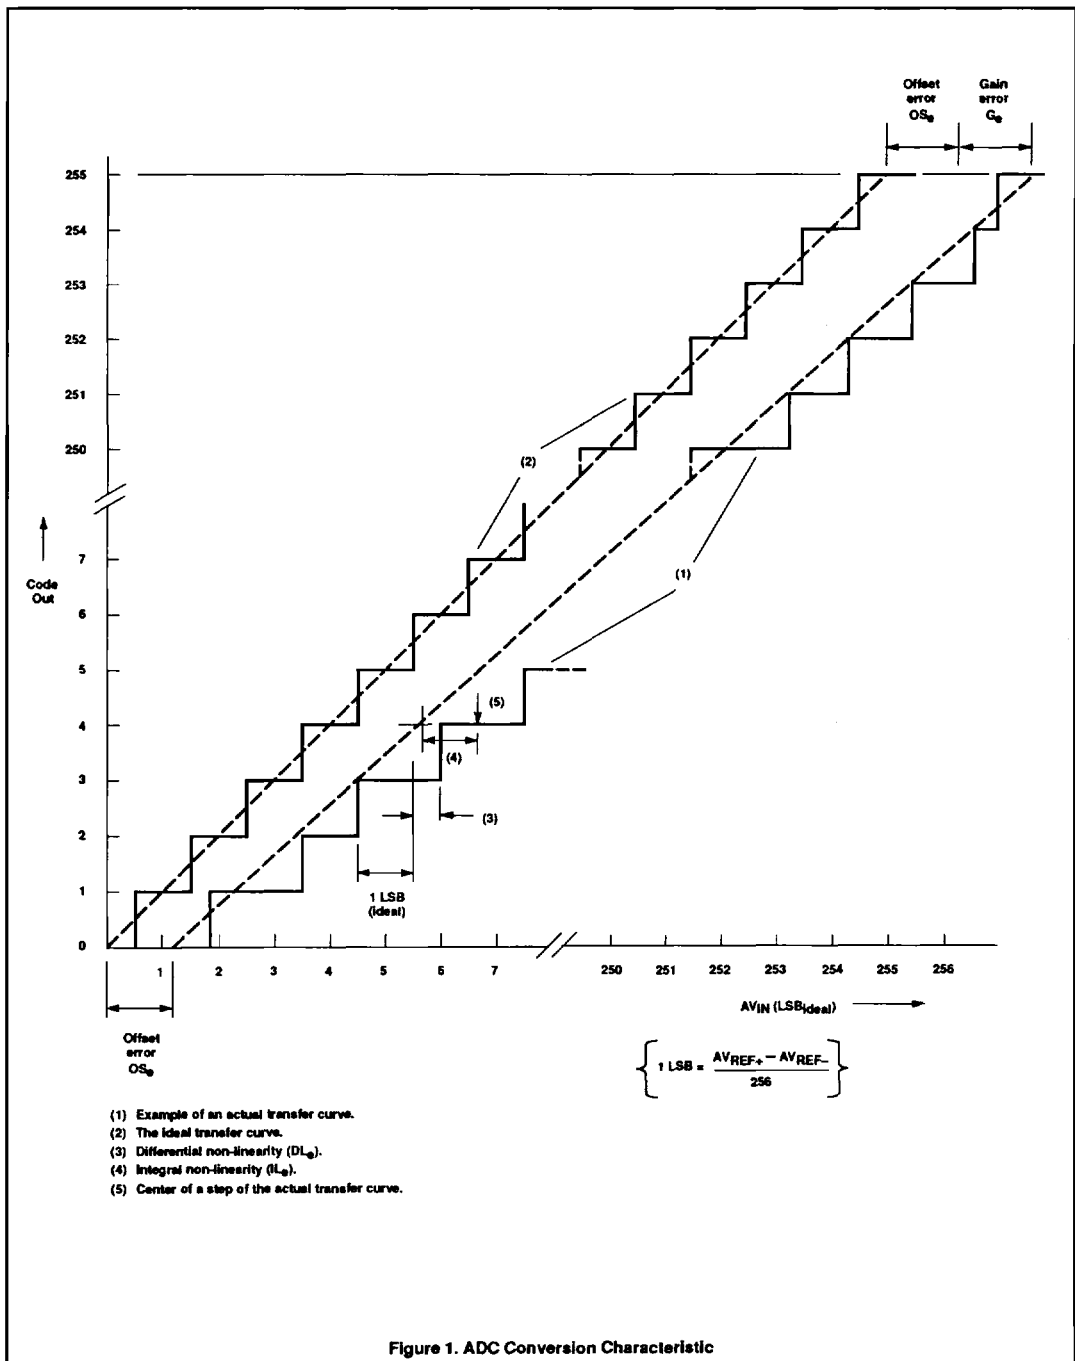

Figure 1. ADC Conversion Characteristic
- The differential non-linearity ( $DL_e$ ) is the difference between the actual step width and the ideal step width. (See Figure 1.)
- The integral non-linearity ( $IL_e$ ) is the peak difference between the center of the steps of the actual and the ideal transfer curve after appropriate adjustment of gain and offset error. (See Figure 1.)
- The offset error ( $OS_e$ ) is the absolute difference between the straight line which fits the actual transfer curve (after removing gain error), and a straight line which fits the ideal transfer curve. (See Figure 1.)
- The gain error ( $G_e$ ) is the relative difference in percent between the straight line fitting the actual transfer curve (after removing offset error), and the straight line which fits the ideal transfer curve. Gain error is constant at every point on the transfer curve. (See Figure 1.)